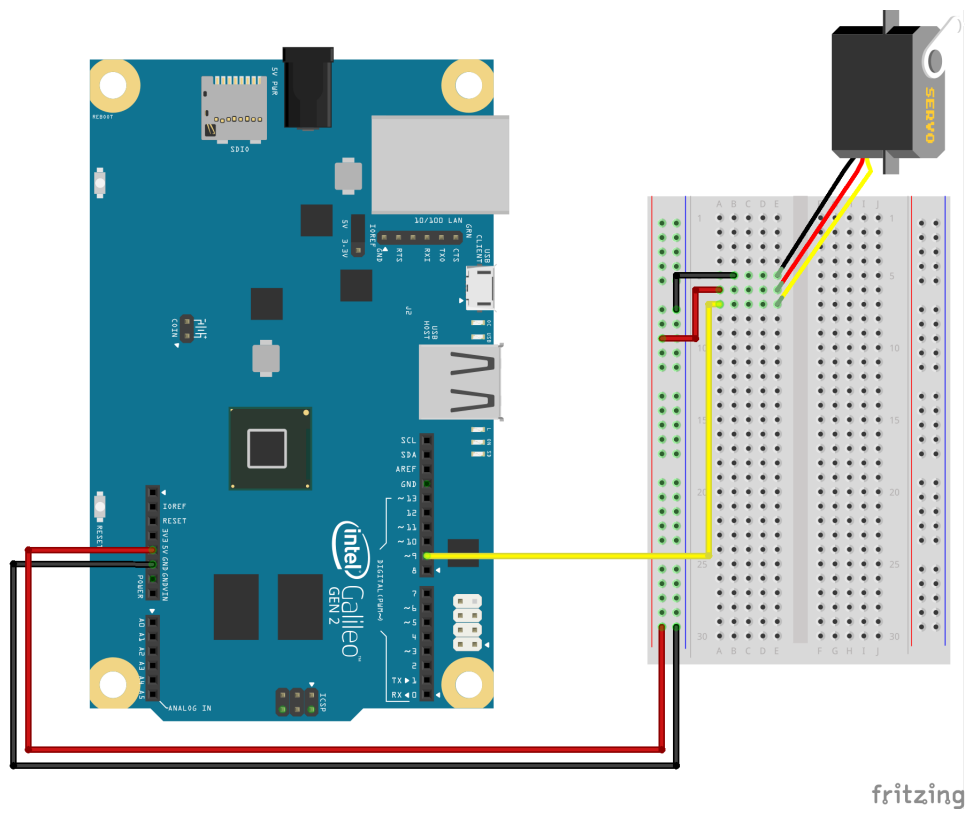

Figure 14: servo connection
**Connection:** See figure: 14